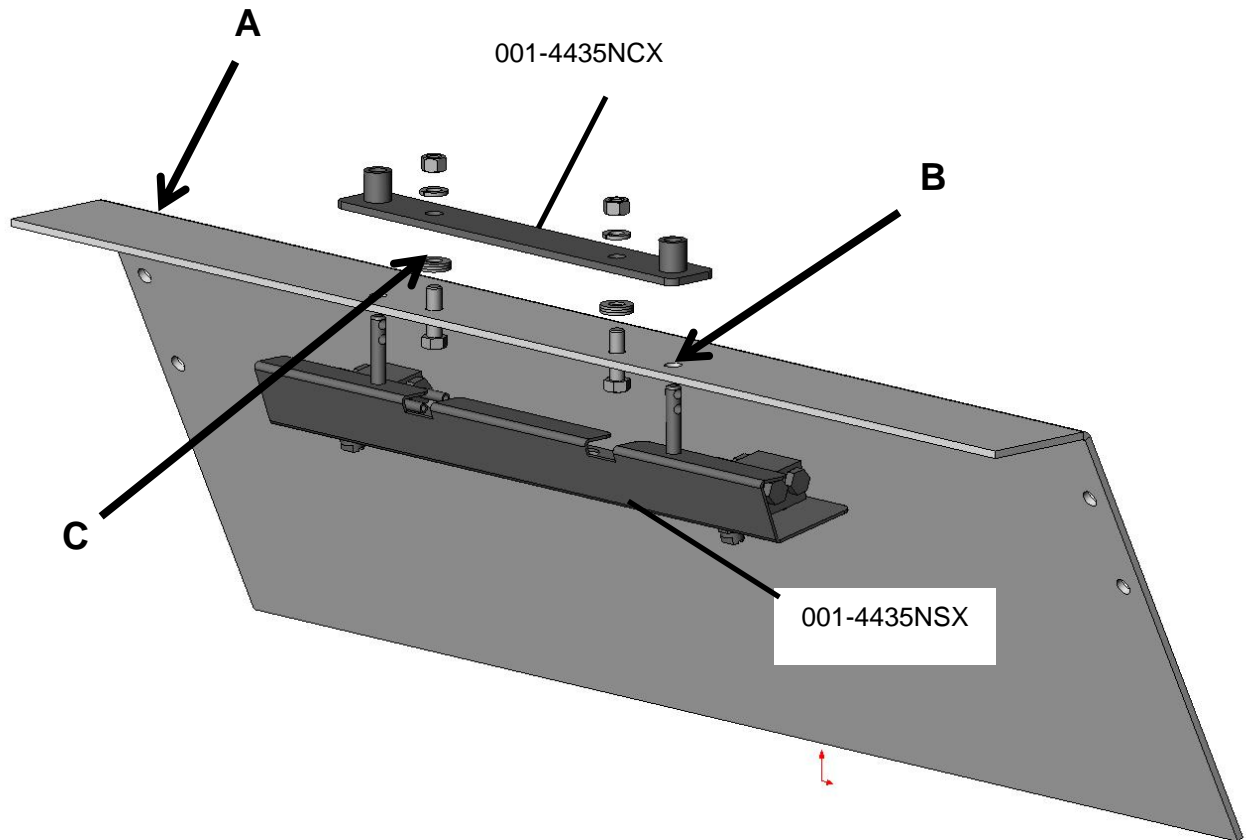

Figure 15
1. Locate the flat steel directly above the stuffer forks. Figure 15, Point A
3. Using the shield holder (001-4435NCX) as a template clamp the holder to the baler, mark the four holes and drill them to 7/16" (9mm) diameter (figure 15 point B).
4. Attach the shield holder (001-4435NCX) to the baler through the two center holes using the two 3/8" x 1-1/4" hex bolts, six flat washers, two lock washers, and two hex nuts. Six washers (three per side) may need to go between the baler and the spray shield holder (figure 15 point C).